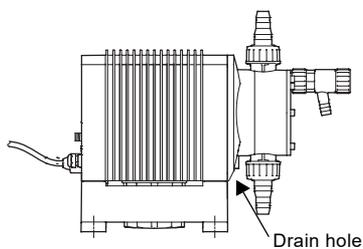

Fig. 2
- Make sure that the drain hole in the dosing head points downwards, see fig. 2.